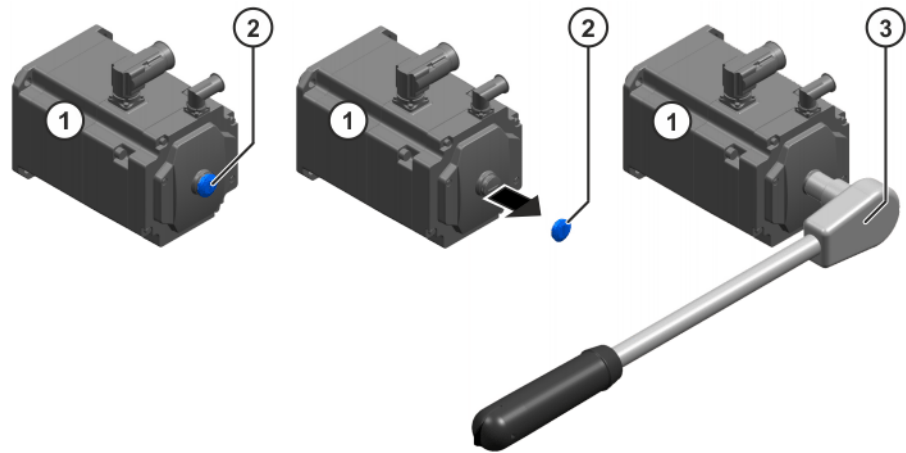

Fig. 8-10: Fitting the release device onto the motor
1. Remove the protective cap from the motor (>>> Fig. 8-10).